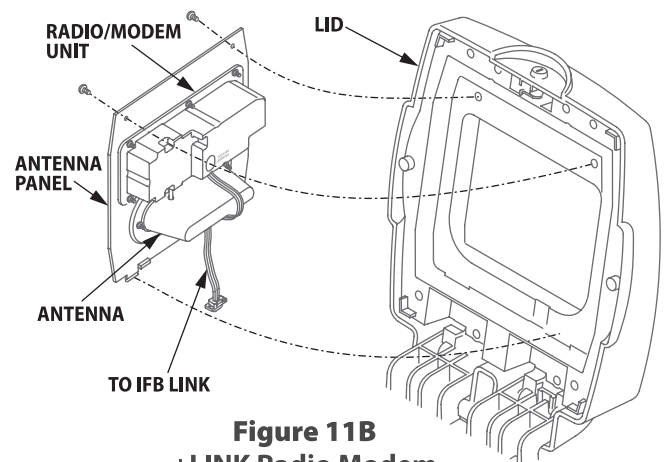

Figure 11B
6. Insert the metal tabs on the base of the antenna panel into the slots in the controller lid and use the two screws to secure the antenna panel inside the lid (see Figure 11B).